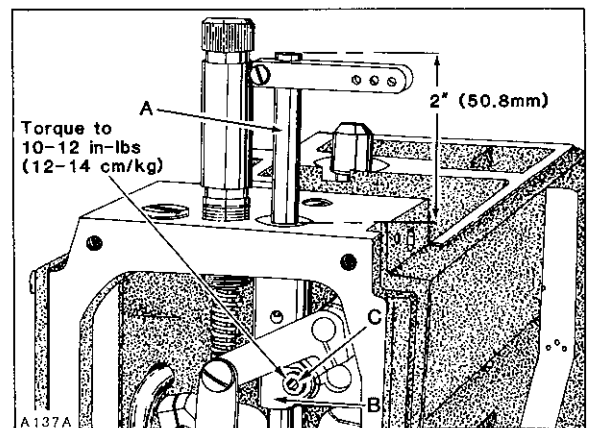
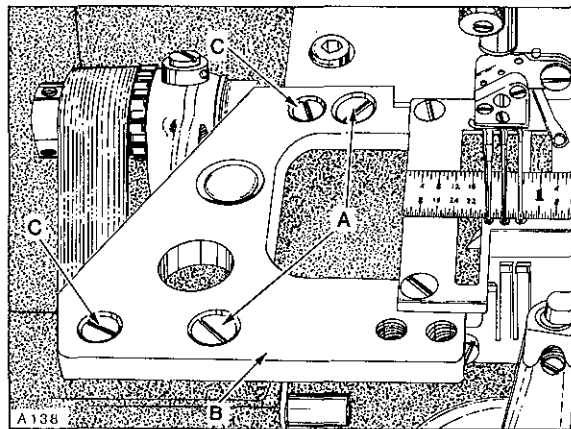

Fig. 7
Fig. 8
Insert a new set of needles. As a temporary setting, the TOP of needle bar (A, Fig. 7) should be approximately 2 inches (50.8mm) from the TOP of upper needle bar bushing when needle bar connection (B) is positioned at TOP of STROKE as shown in Figure 7. Adjustment can be made by loosening screw (C), reposition needle bar up or down as required and tighten screw (C) VERY LIGHTLY 10 - 12 in-lbs (12 - 14 cm/kg) maximum torque. Rotate handwheel to ensure that needles center in the needle holes of throat plate as shown in Figure 8. Adjustment can be made by loosening screw (C, Fig. 7) slightly, allowing needle bar to be rotated as required, while being careful to maintain the temporary height setting and tighten screw (C) AS SPECIFIED. An additional 4-way directional adjustment of the throat plate can be accomplished as follows:
**IMPORTANT:** Adjustment of throat plate must be coordinated between needles and feed dogs; refer to "FEED DOG SETTINGS". Loosen two screws (A, Fig. 8) in throat plate support (B). Loosen two screws (C) which secure locating ferrules, allowing the throat plate support to be repositioned slightly. Tighten screws (C) first, then screws (A).